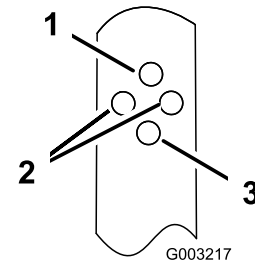

Figure 14
2. Insert the bolt through the hole in each of the handle brackets that sets the handle to the desired position (Figure 14).